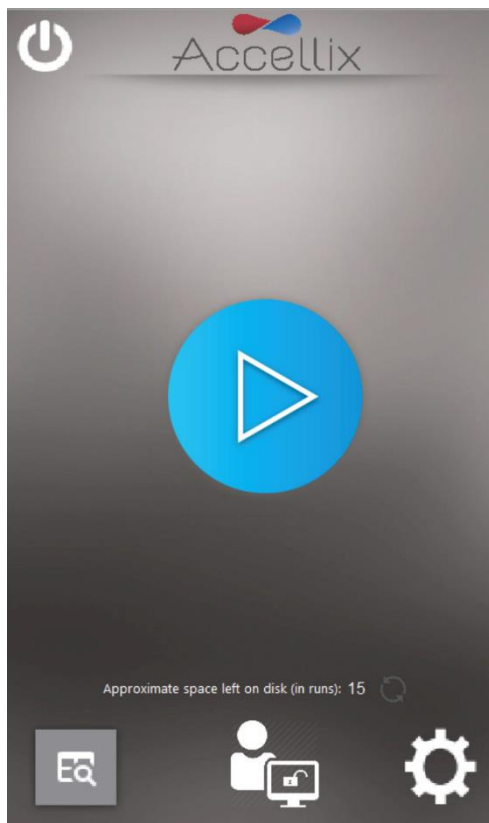

Figure 16: Home screen
3. Tap the **Next** icon to display the **Home** screen (Figure 16).
2. Verify that system has successfully completed initialization, and that the **Home** screen (Figure 16), or the user login screen (Figure 5, if logins are enabled) appears on instrument display.
Note: The free space available on the instrument's internal hard disk is displayed as a function of the total number of assays that can be run. Press the Refresh icon () located near the bottom of the display to refresh this number after manually deleting files (Figure 16).
1. Tap the **Administrator** icon  at the bottom center of the **Home** screen (Figure 16).